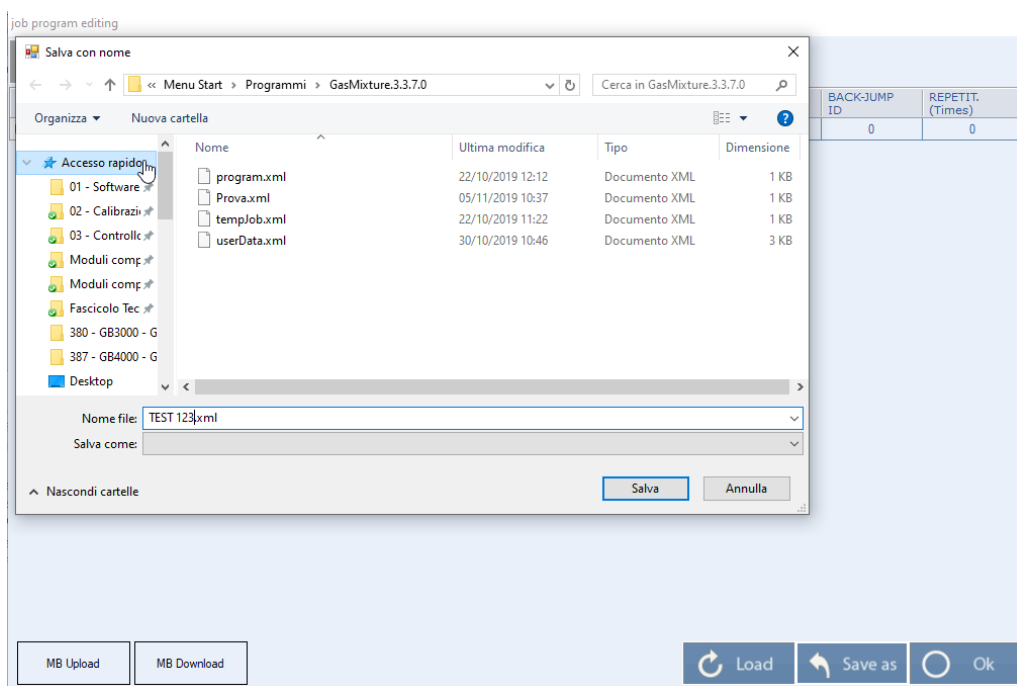

Figure 5-33
3. Once you have created your "program job" you can click the button "**Save as**" to memorize the program in an external file on the computer with your desired name (i.e. TEST 123). (Figure 5-33)